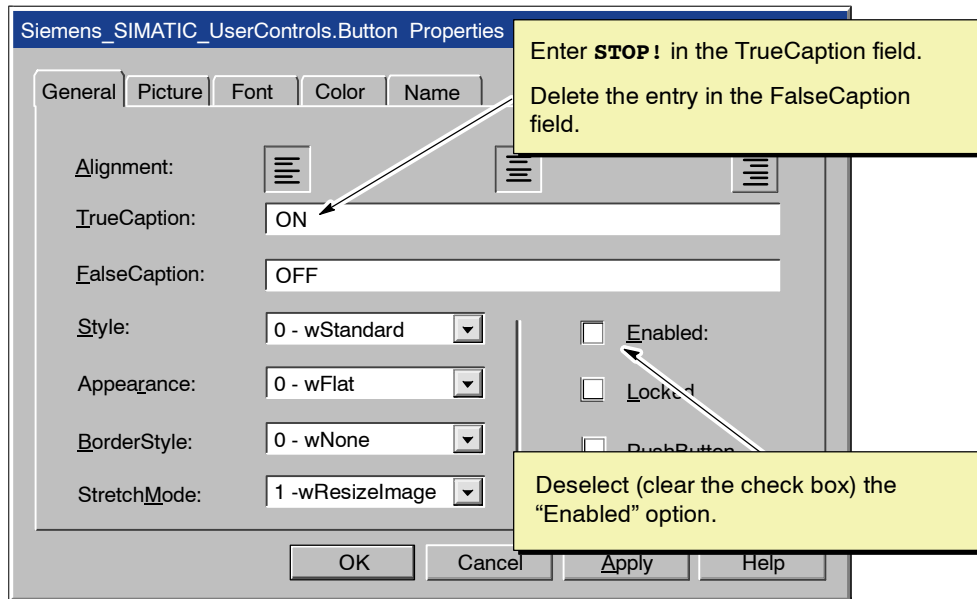

Figure 3-18 Configuring the Caption for Button1 (Button Control 1)
4. As shown in Figure 3-18, modify the labels (captions) for the control:
5. Click on the check box for the Enabled property and deselect this property. See Figure 3-18.